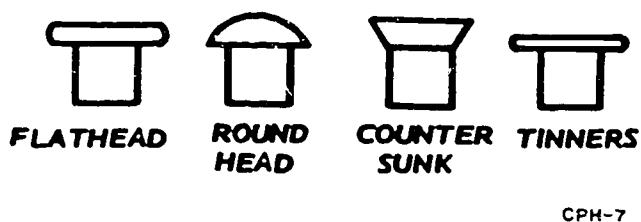

Figure 2-13. Typical rivet heads.
Rivets vary in the following respects: the kind of metal from which they are made, type of head, diameter, and length. Figure 2-13 illustrates some of the various shapes of rivet heads you may encounter. The rivet most often used in the sheet metal shop is the tinner's rivet; however, you may also use Monel, aluminum, and blind rivets of various shapes and styles.
**Tinner's Rivets.** As a sheet metalworker, you use tinner's rivets more than any other type. They are made of mild (soft) steel, are easily formed with a hand riveting set, and are usually tinned. The tinner's rivet illustrated in figure 2-13 is available in various diameters and lengths. The rivet sizes are identified according to the weight per thousand. For example, 1,000 of the smallest tinner's rivets (which are identified as 8-ounce rivets) weigh 8 ounces. Tinner's rivets are available in the following sizes: 8 oz, 1 lb, 1½ lb, 1¾ lb, 2 lb, 2½ lb, 3 lb, 4 lb, 5 lb, 6 lb, 7 lb, 8 lb, 10 lb, and 12 lb. You can see there are many sizes available; however, in the sheet metal shop, the sizes in the following list are used more than the others: